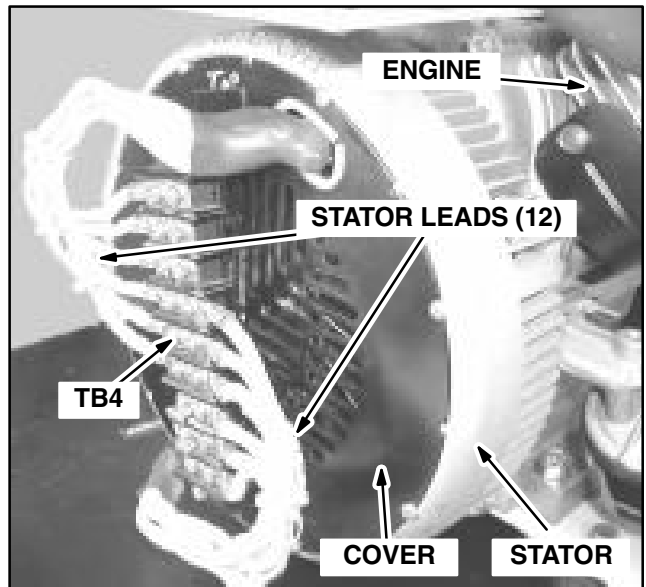
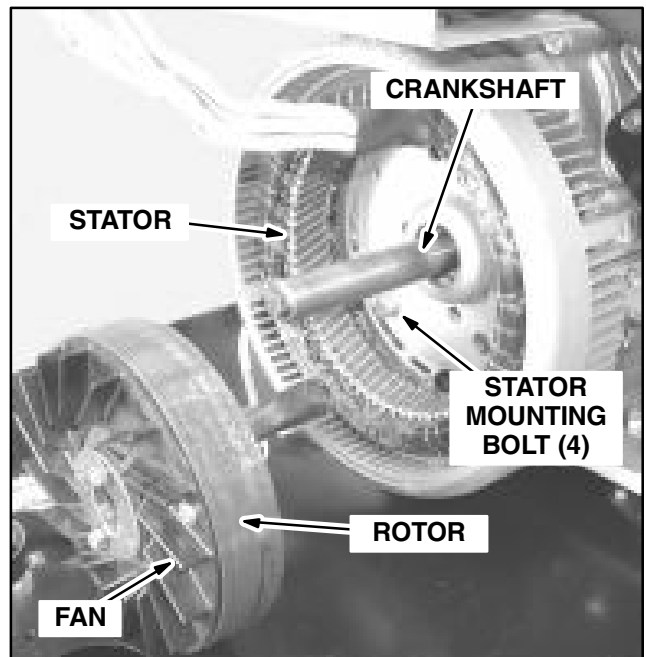

FIGURE 14. ALTERNATOR ASSEMBLED
FIGURE 15. ALTERNATOR DISASSEMBLED
This is a three-phase, twelve-lead alternator with a permanent magnet rotor. The stator is bolted directly to the engine block (Figures 14 and 15). The rotor is secured directly to the crankshaft by means of a tapered bushing that is keyed to the straight crankshaft (Figure 15).
3. Disconnect all twelve (12) stator leads from TB4 (Figure 14) and check each for electrical continuity to ground. Replace the stator if any winding is grounded (Page 27).